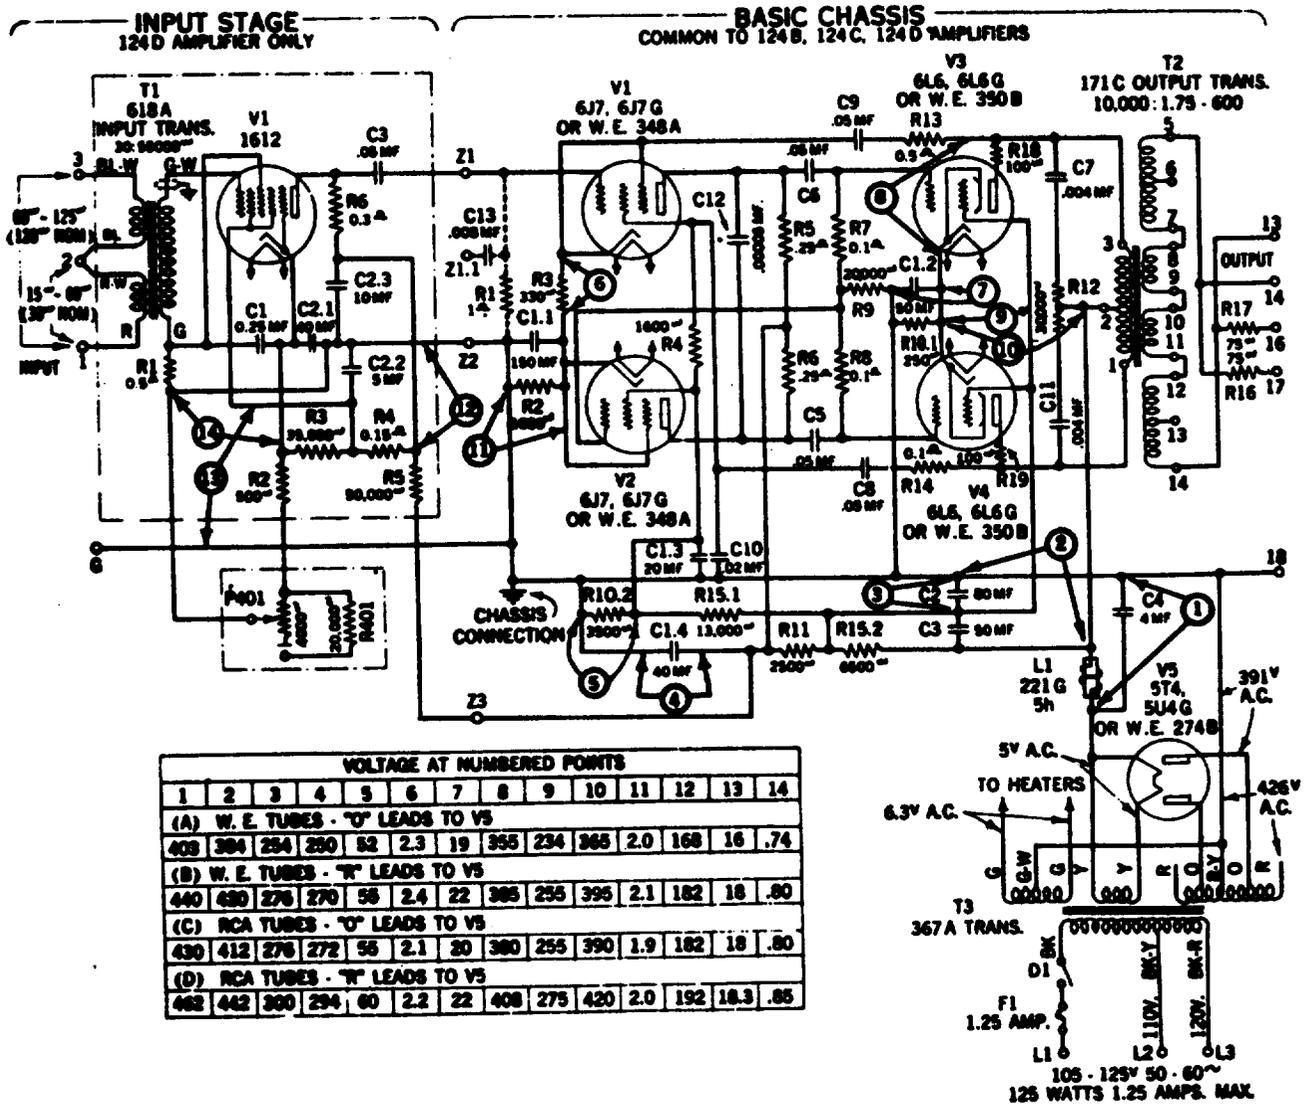

Fig. 1
2.05 In connection with locating troubles within the amplifier the operating currents and voltages of various parts of the circuit can be checked in accordance with the information included in Figs. 1 and 2. These tests should be made with a volt-ohmmeter having a resistance of at least 1,000 ohms per volt.